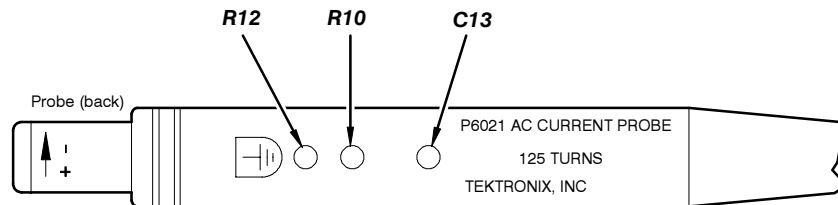
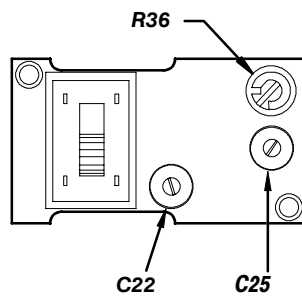

Figure 8: Location of probe adjustments
Figure 9: Location of termination adjustments
7. The following adjustments affect aberrations and flat-top response: C13, R10, and R12 of the probe (see Figure 8) and C22, C25, and R36 of the termination (see Figure 9). To minimize aberrations and achieve the best flat-top response, the following procedure is recommended. However, these adjustments interact; you may have to readjust several of them to ensure minimum aberrations..
- a. Adjust R10 and R12 for flat response (see Figure 8). (Controls overshoot in the first 10 ns time domain.)
- c. Adjust R36 for flat response (see Figure 9). (Controls front corner, first 5 ns.)